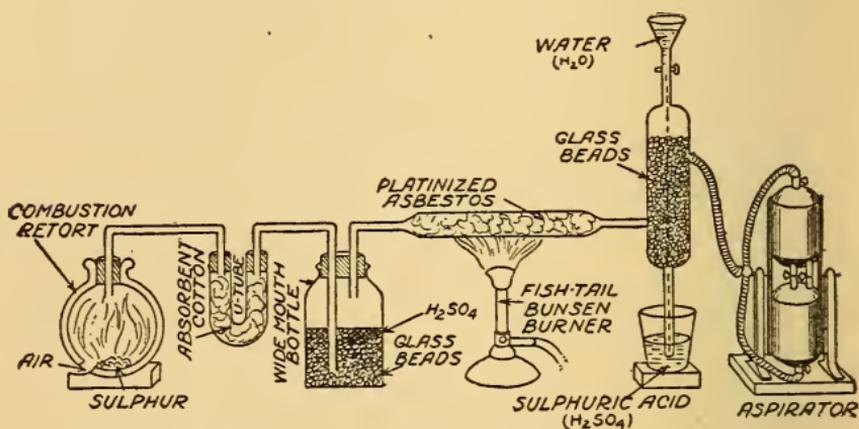

FIG. 28. APPARATUS FOR MAKING SULPHURIC ACID ( $\text{H}_2\text{SO}_4$ )
**How to Make Sulphuric Acid.**—*The Apparatus.*—To make a little sulphuric acid ( $\text{H}_2\text{SO}_4$ ) is a pretty costly experiment but if you are bent on doing so get the following apparatus and set it up as shown in Fig. 28.
(1) A combustion retort; (2) a U-tube; (3) a